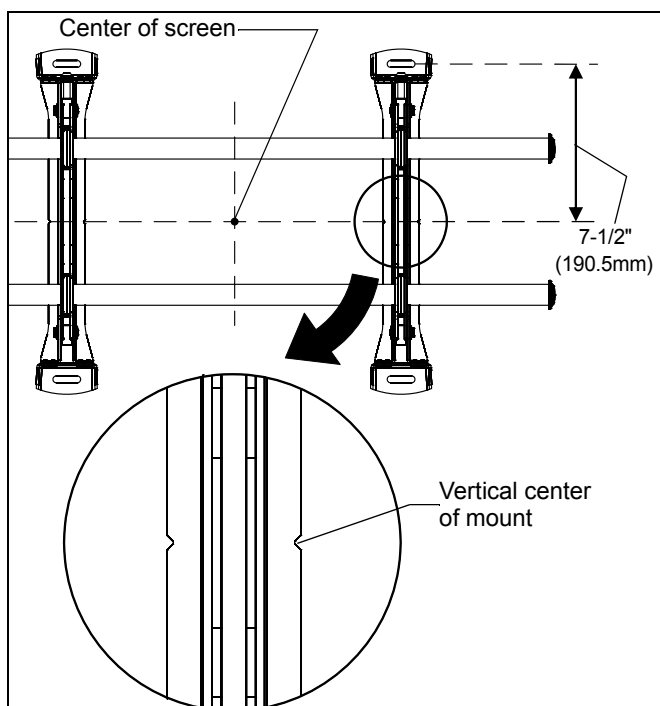

Figure 1
3. Line up the notches on mount (A) with center of screen marking to determine vertical center. (See Figure 1)
2. Line up the notches on mount (A) with center of screen marking to determine vertical center. (See Figure 1)
3. Measure up 7-1/2" (190.5mm) from the center point to mark location of the upper mounting slots. (See Figure 1)